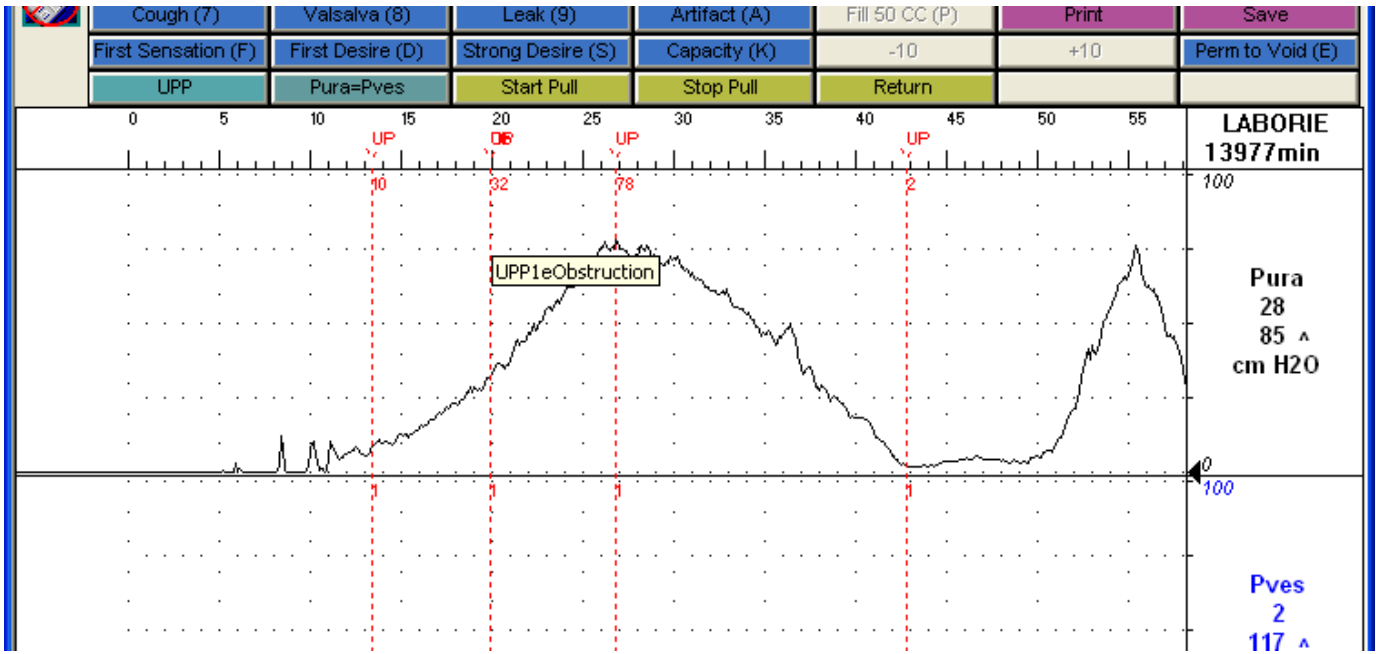

Figure 118: Selecting Obstruction Zone
3. The UPP obstruction zone will be marked on the graph as an event annotation in the format *UPPXeObstruction* (where X represents the UPP segment number). The original peak pressure event is recalculated between this new event and the UPP stop event, which becomes the UPP peak pressure for Functional Zone. A new peak event is also added called *Obstruction Zone Peak 1*. Refer to Figure 118.